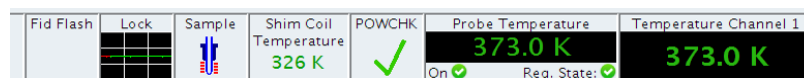

Figure 5.16 Shim coil temperature after 30 minutes working at 373K.
7. Checking the Shim coil temperature during operating at those temperatures (up to 150°C) is **critical** (Figure 5.16). The shim coil temperature should **not exceed 353K**.